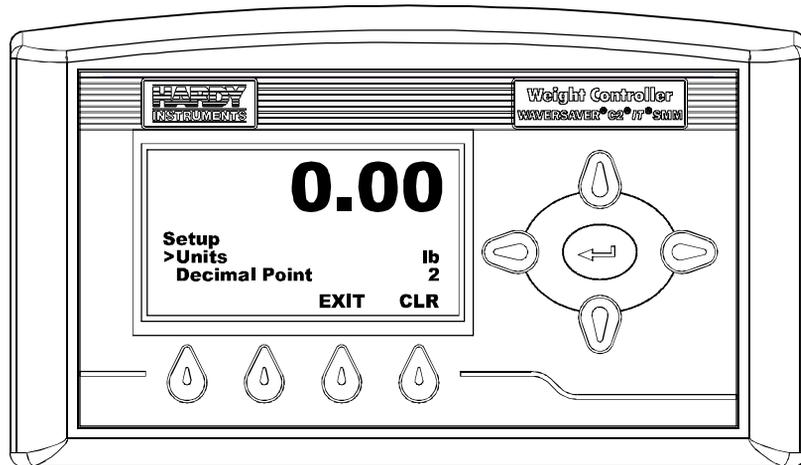

FIG. 67 CONFIGURATION/SETUP MENU/SELECTING UNITS OF MEASURE
- Step 3. Press the Enter button. The Setup Menu appears with the cursor in front of Units. The current units is displayed. (See Fig. 67)